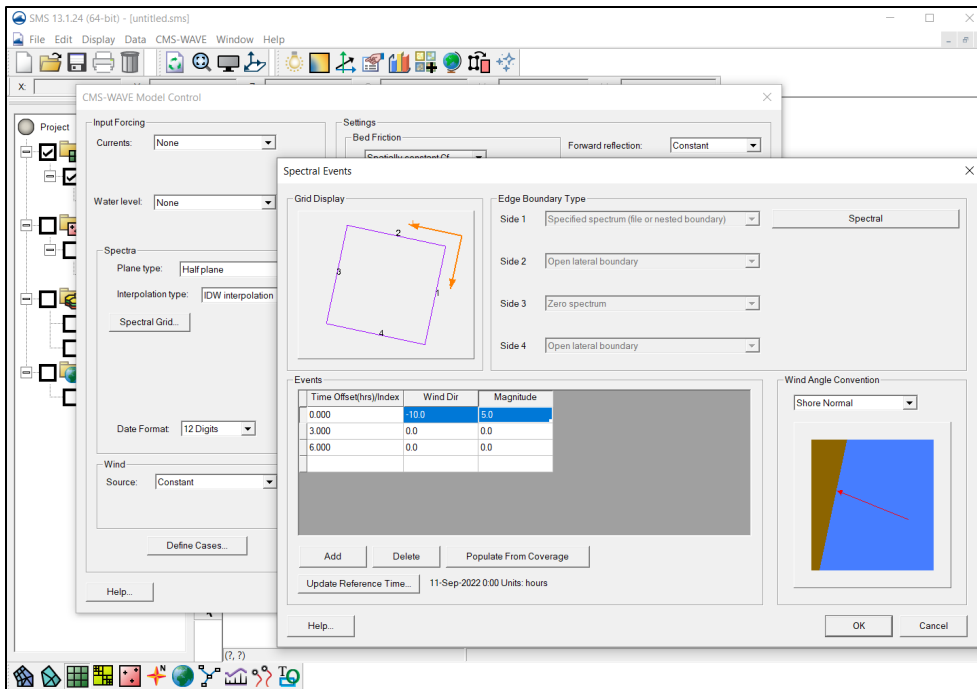

Figure 24. Assigned wind wave cases in *Spectral Events* dialog.
- In the *Events* section, click **Populate From Coverage**. This creates an event for every time entry defined in the spectral coverage. In this case, there are three incident wave events (Figure 24). One can provide wind input data (magnitude and direction) for each event if desired.